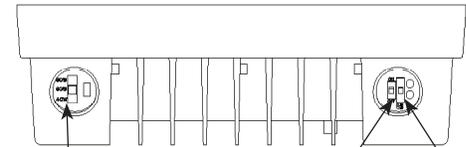

Fig: 11
2. Locate the **Selector Switches** on the fixture (*Fig. 11*).
3. Select **Power (W)** and **Color Temperature (CCT)** by sliding the respective switch to the desired value.